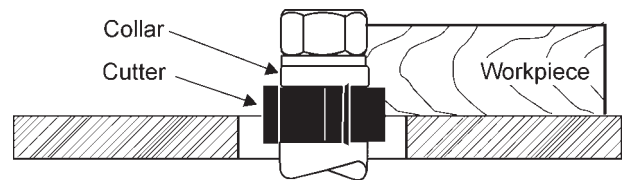

FIGURE 23
2. When the collar is used above the cutter, as in Figure 23, the cut can not be seen; but this method offers an advantage in that the cut is not affected by slight variations in the thickness of the stock.